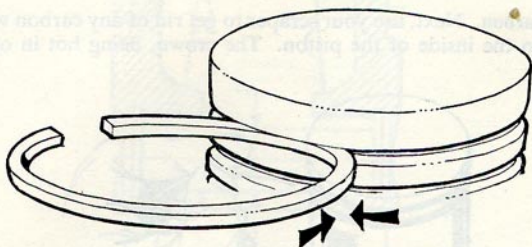

FIG. 25. CLEARANCE IN THE GROOVES
**Checking for wear.** Having cleaned them thoroughly, check the rings for wear by inserting one at a time into its groove—open end outwards—and rolling it round (*see* Fig. 25) to ensure that it is a good fit. It must not be tight.